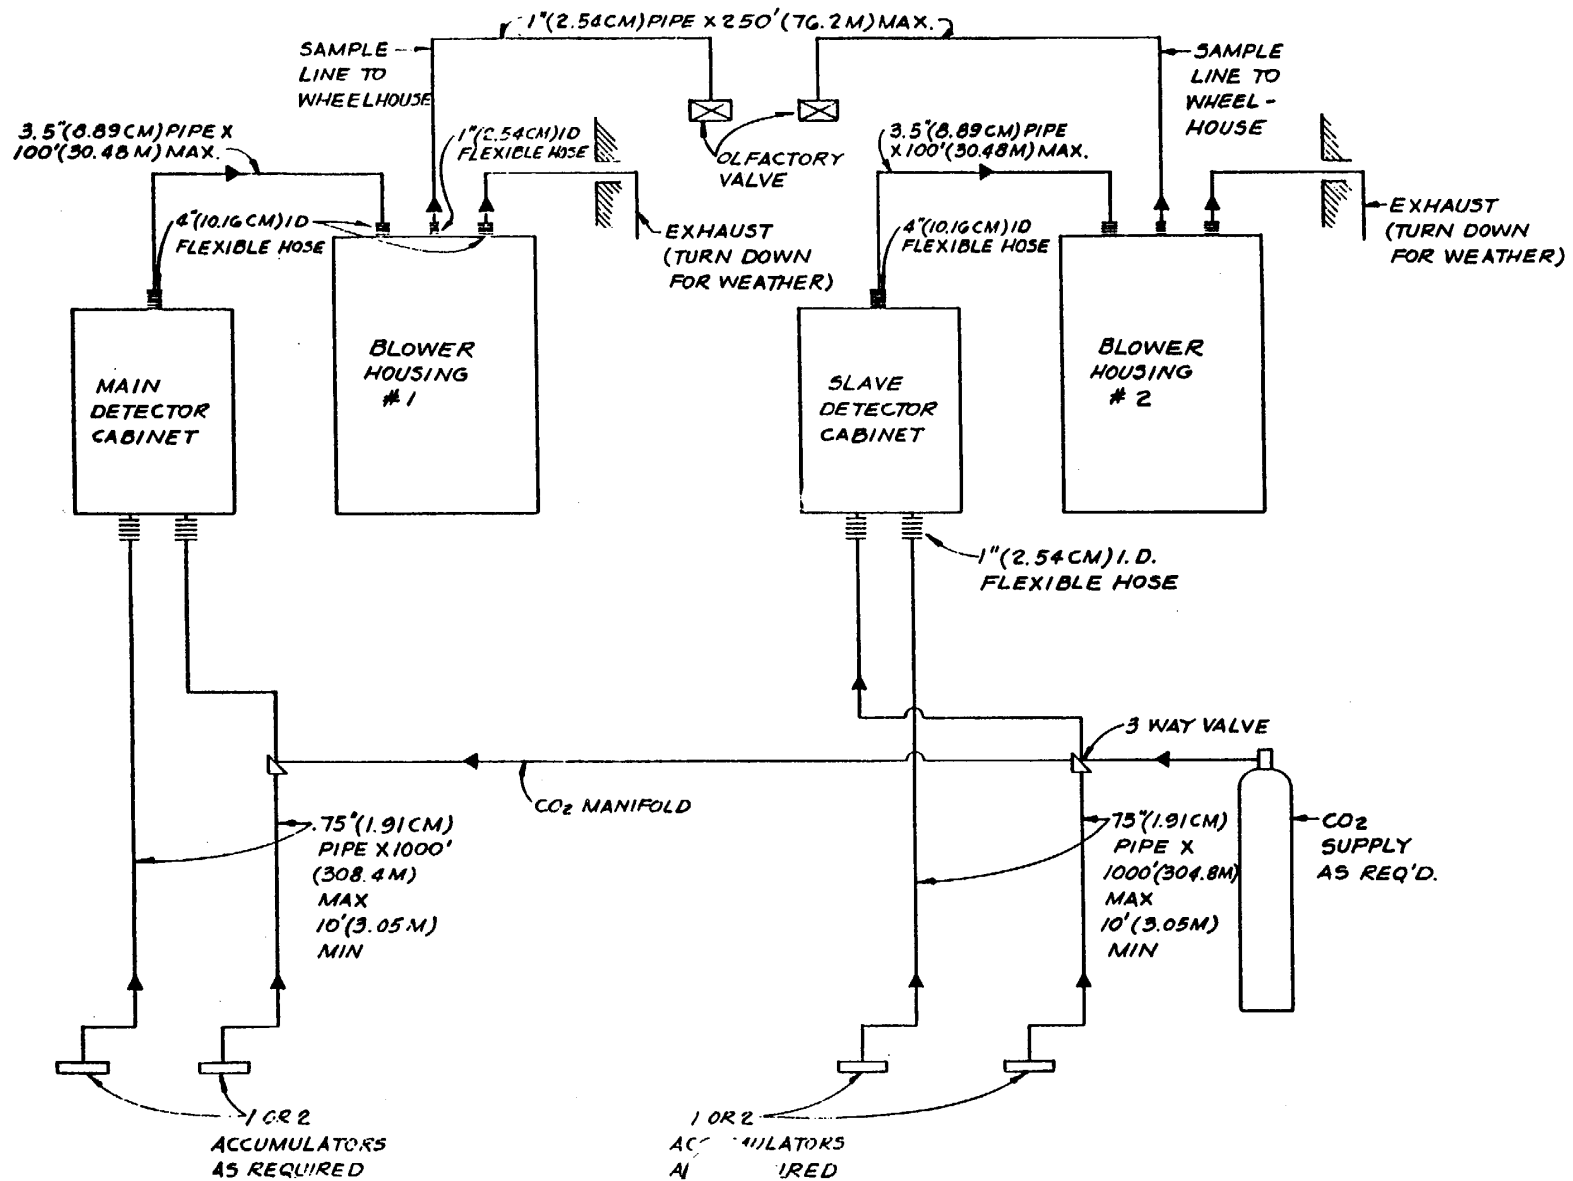

Figure 4-2. Air Flow Diagram; 25-48 Lines; SKC-148138
- 4.6 With double blower cabinets (Figure 4-2), the slide valve in the slave cabinet (No. 2) is "locked" wide open; while the slide valve in the master cabinet (No. 1) is adjusted for  $1\text{-}3/4 \pm 1/4$  inches of water with both blower cabinets operating.